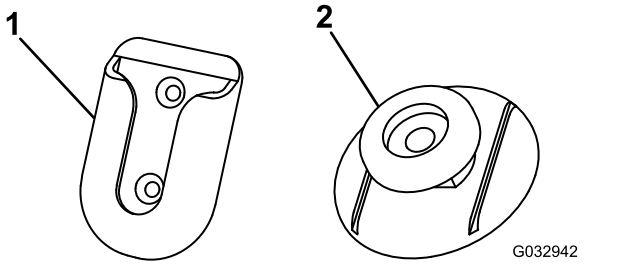

Figure 15
- Clean the back of the swivel mount (Figure 15) with the alcohol wipe and then dry it.
- Remove the backing from 1 side of the adhesive and apply it to the back of the mounting tab (Figure 15).